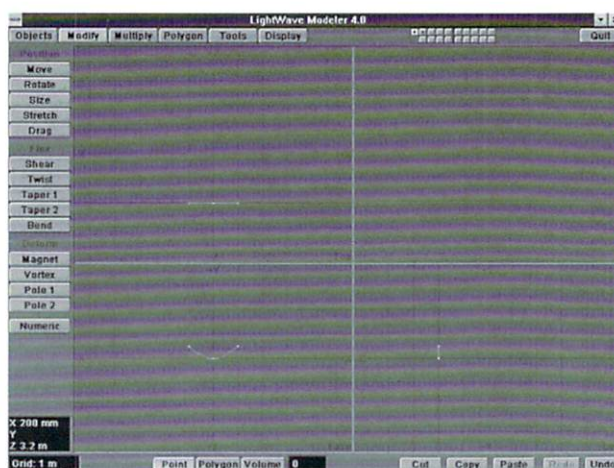

Figure 1
The hand splint starts at the forearm and extends until the initial joints of the fingers. Another portion of the splint extends further to cradle the thumb. I know it's hard to visualize the object, so take a look at the screen shots to get an idea of what you're building. I had five key cross section splines that were modeled along the object's Z-axis. The initial curve consisted of three points. I decided to plot the curves first and then go back and move the points to make a more defined shape. See Figure 1 to get an idea of the shape I used for the beginning of the arm splint. Follow these steps to begin the splint:
- Create the curve in Figure 1.